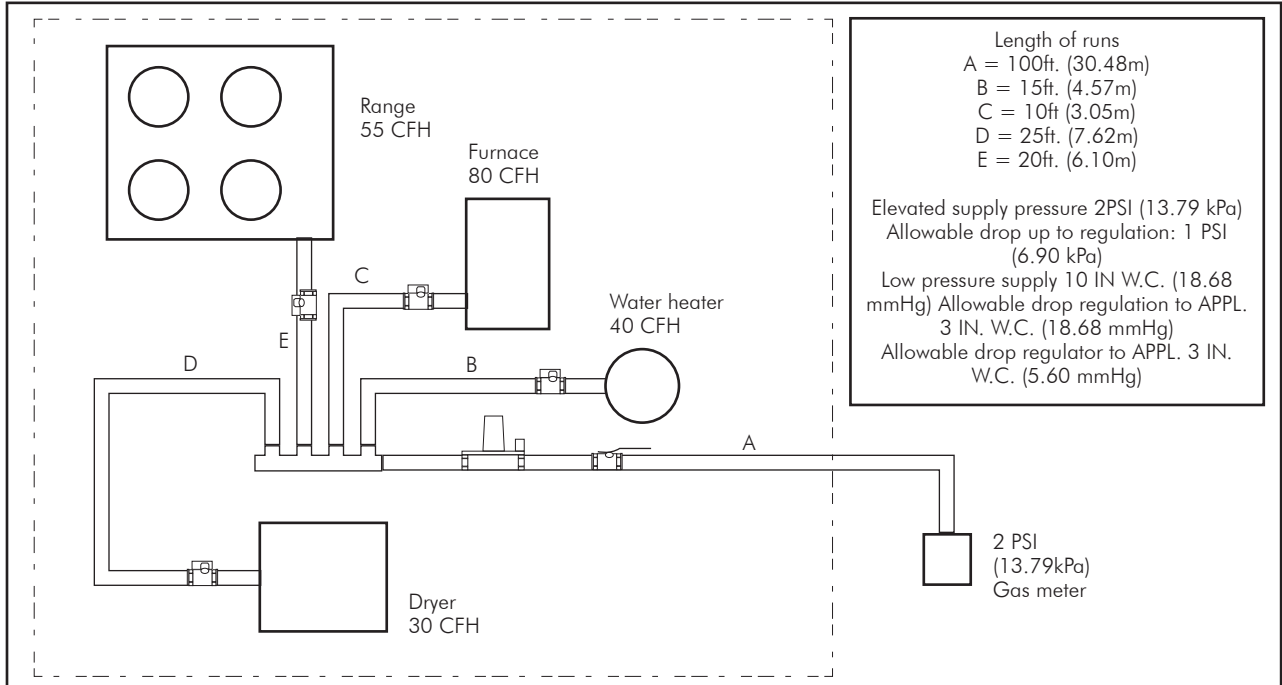

FIG. 3-4 Example 3 - Elevated/Dual Pressure System, 2PSI (13.79 kPa), Parallel Arrangement
### Elevated/Dual Pressure Systems – FIG. 3-4
- Table N-4 shows that size ¾" (10) can handle 131 CFH at 20 feet (6.10m)
- The correct size is ¾" (10)
1. The system shown in FIG. 3-4 is adapted for multifamily or single family application with an extended, 100 ft. (30.48m), tubing run from the meter to the regulator. The 2 PSI system is well adapted to handle the long runs required in multifamily buildings with centralized meter banks.
- Table N-5 shows that 3/8" (10) is too small for 205 CFH, 1/2" (13) can handle 249 CFH
- The correct size is 1/2" (13)
- Section B is 15ft. (4.57m) with a 40 CFH Load. The suitable size 3/8" (10) has 106 CFH capacity at 15 ft. (4.57m)
- Section C is 10 ft. (3.05m) with a 80 CFH load. The suitable size 3/8" (10) has 131 CFH capacity at 10 ft. (3.05m)
- Section D is 25ft. (7.62m) with a 40 CFH load. The suitable size 3/8" (10) has 82 CFH capacity at 25 ft. (7.62m)